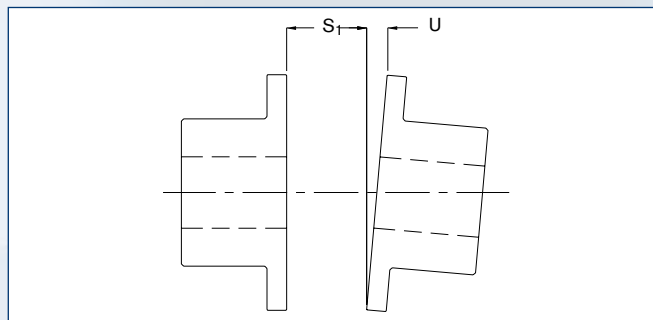

Fig. 5
3. It is useful to check the alignment one last time before finally fixing the coupling. To do this measure the height of the disc pack S_1 at two positions at 180 degrees to one another (fig. 5). The difference between the two measured values may not exceed the value U (page 57, table 4).